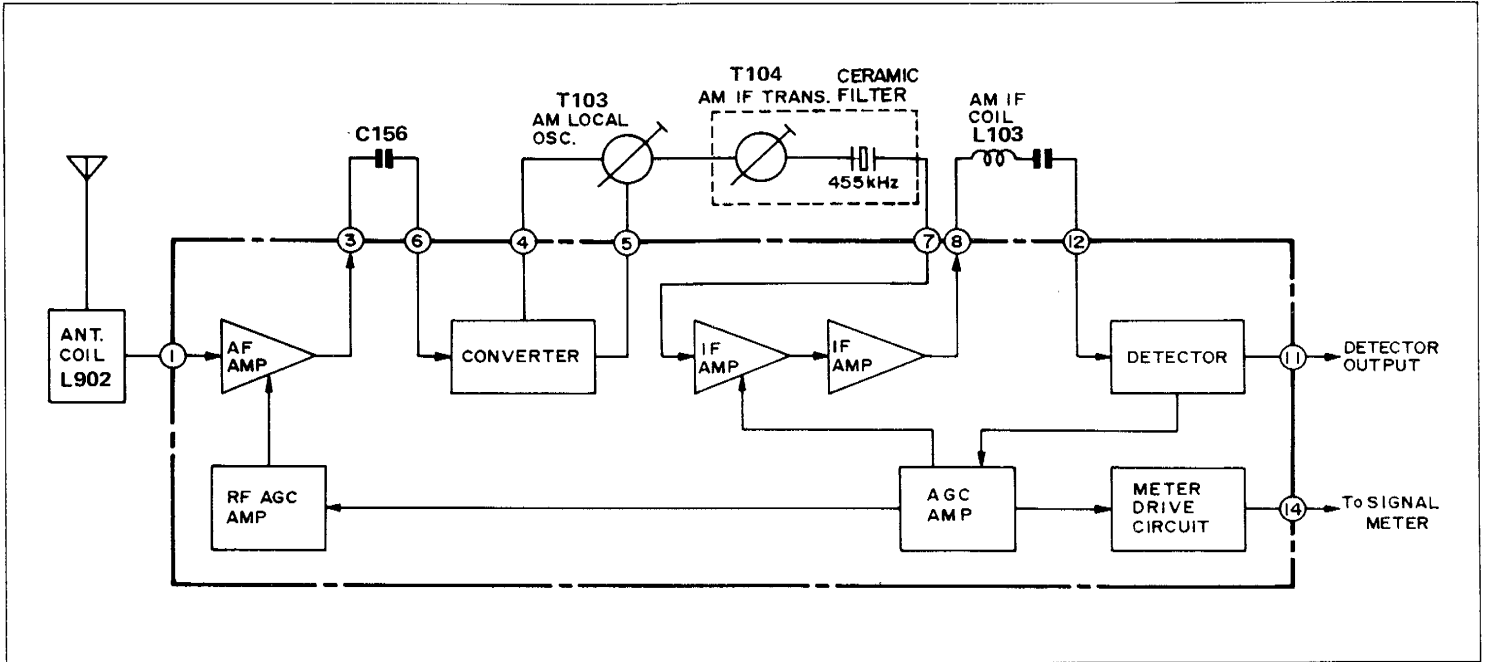

Figure 15-1 BLOCK DIAGRAM OF IC104
**AM CIRCUIT** (Refer to Figure 15-1 and 15-2)
Figure 15-1 is a block diagram of IC104. The coil L902 is AM ferrite bar antenna and it serves as antenna tuning circuit. Being received by the coil L902, AM broadcast signal is applied to the terminal 1 of the integrated circuit IC104 to be amplified by RF amplifier and then be supplied to the converter via the capacitor C156. T103 is an oscillation coil for AM local oscillation circuit. Intermediate frequency selection element making use of the ceramic filter T104 is employed